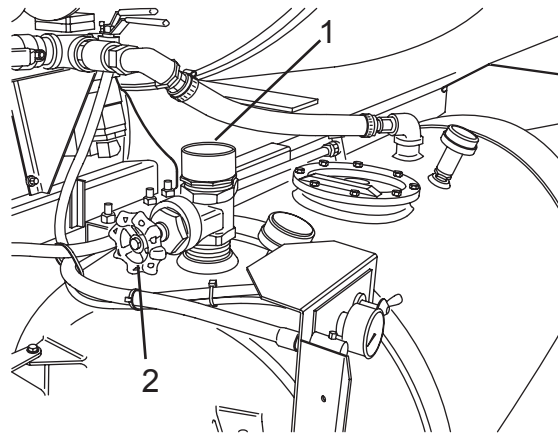

Figure 108
2. Open the chemical tank gate valve (Figure 108, Item 2) and fill the chemical through the inlet (Figure 108, Item 1).
3. Connect a water supply hose to the inlet (Figure 108, Item 1) and fill tank.